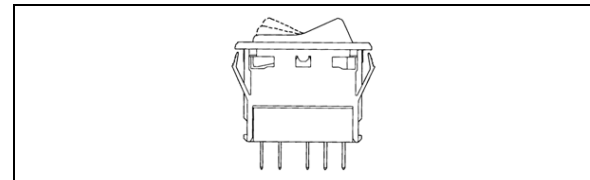

FIGURE 67: SWITCH
3. To install a new switch, reverse the procedure (FIGURE 67).